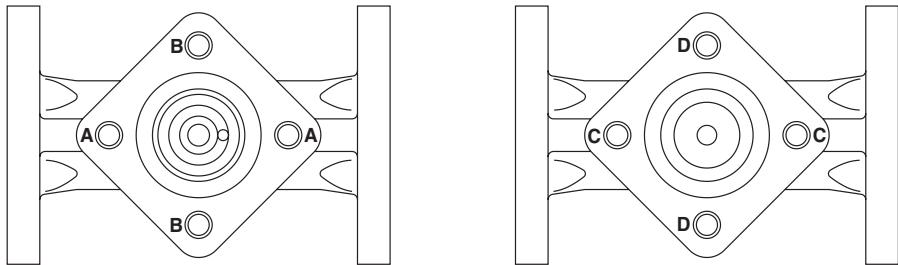

Fig. 11
The flanged TD62M and TD62LM are fitted with two different lengths of studs. It is therefore important that the correct length of stud is fitted into the correct tapped holes in the body. The studs are packed in separate labelled bags (A, B, C, D), within the spares pack. The stud holes are as marked on the diagrams in Figure 11. Fit new studs to the recommended torque (see Table 1) until they bottom out.
* Note: There are 2 sets of 4 studs which make-up the cover stud and nut set. They are marked 'T' for top studs and 'B' for bottom studs (see Figure 11). Care should be taken to ensure that the correct studs are fitted into the correct tappings, see Section 6.3 - Flanged connections + Figure 11.